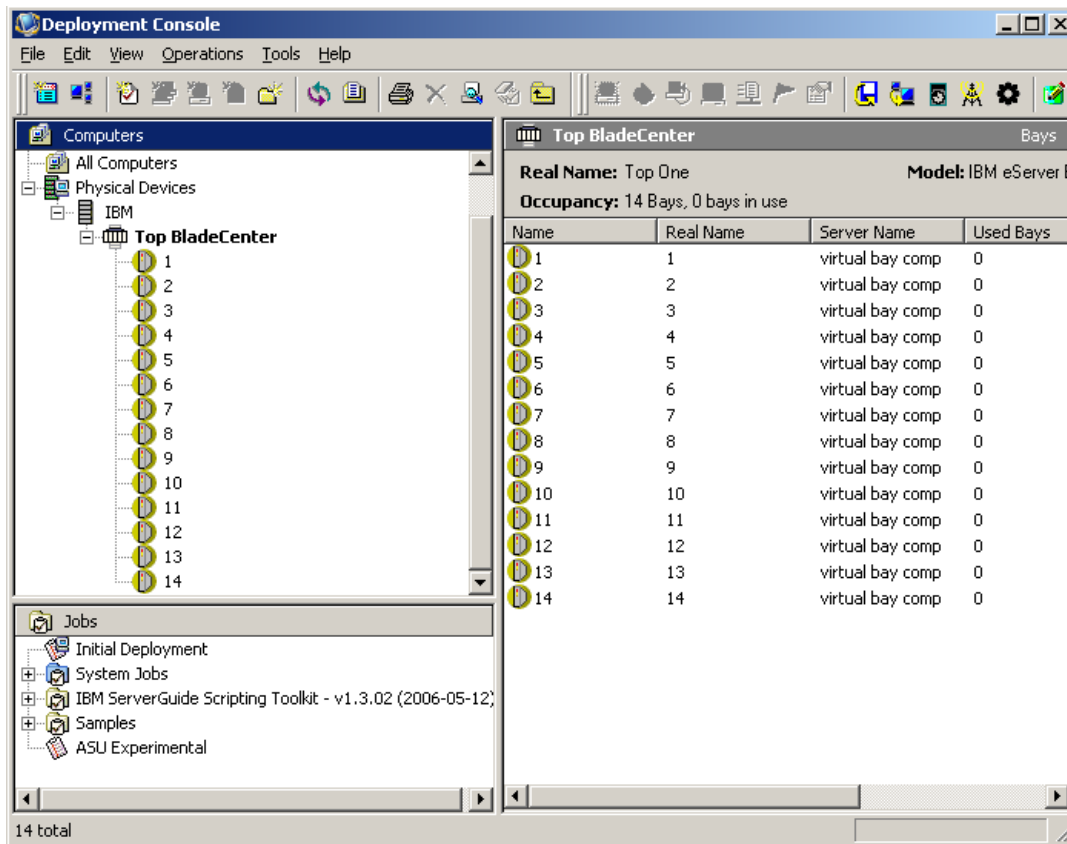

Figure 9-2 The Deployment Console with physical devices view enabled
When physical devices view has been enabled, Blade servers and BladeCenter chassis will be displayed as shown in Figure 9-2 on page 302.
**Note:** For IBM blade servers in physical devices view, the rack name is always IBM. All subordinate Enclosures are identified by the chassis UUIDs under IBM rack name and bays are identified by numbers as shown in Figure 9-2 on page 302.